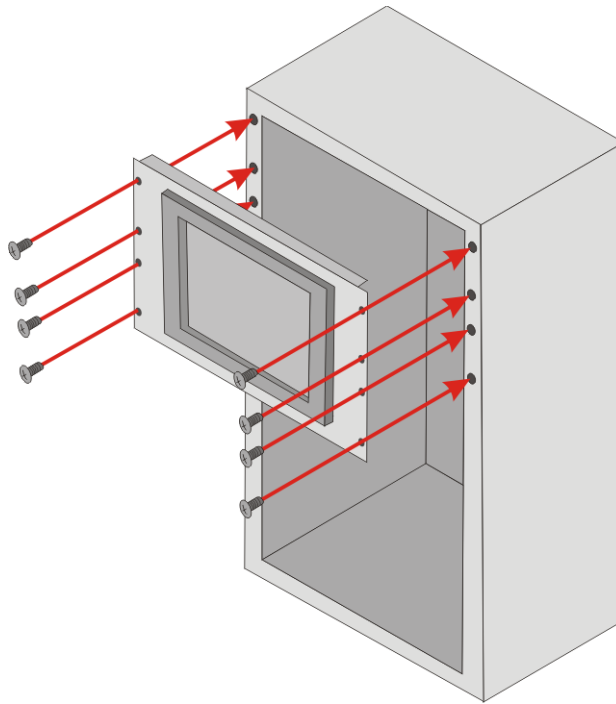

Figure 3-34: Installing into a Rack/Cabinet
Step 4: Slide the PPC-3708A-N26 panel PC with the attached rack/cabinet bracket into a rack or cabinet (**Figure 3-34**).
Step 5: Once the panel PC with the attached rack/cabinet bracket has been properly inserted into the rack or cabinet, secure the front of the rack/cabinet bracket to the front of the rack or cabinet (**Figure 3-34**).